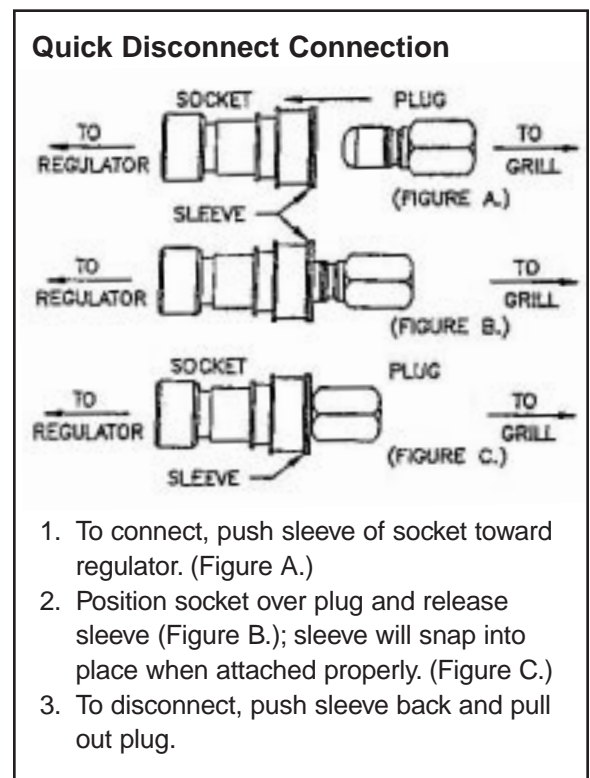

Figure 6.
3. Remove protective cap from gas connection plug on side of grill and attach regulator to plug, using the “QUICK DISCONNECT” instructions. (Figure 6.)
8. Disconnect regulator quick connect fitting. (Figure 6.)
6. Attach the hose end of the regulator to the grill using "QUICK DISCONNECT" instructions. (Figure 6.)
3. Remove protective cap from gas connection plug on side of grill and attach regulator to plug using the Quick Connect fitting. (Figure 6.)
5. To disconnect gas supply make sure burner control knob is in the "OFF" position and disconnect regulator quick connect fitting. (Figure 6.)